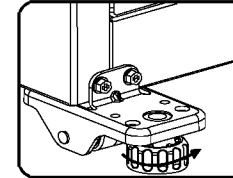

Fig. 1
Step 4: Rotate the two front levellers, provided below your refrigerator, clockwise to raise the front and anticlockwise to lower it (refer fig.1). The front should be slightly above the rear - so that the door shuts gently when left open.